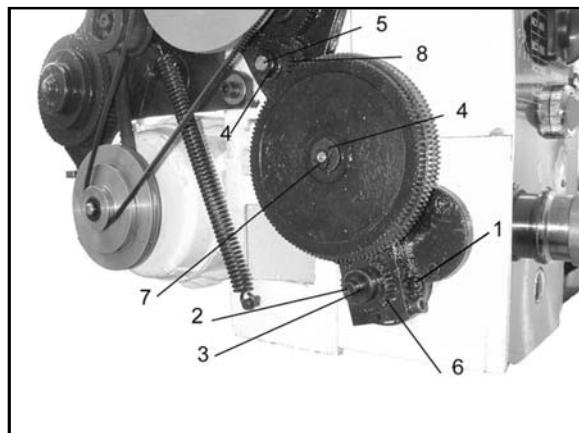

Figure 20
### Example of Gear Set-up to Cut 10 T.P.I. (Figure 20)
1. Loosen screw (1, Figure 20).
2. Loosen bolt (2). Remove washers (3) and gear (6).
3. Loosen bolt (7) to allow movement in the center gear position.
4. Loosen nuts (5). Remove washer (4) and gear (8).